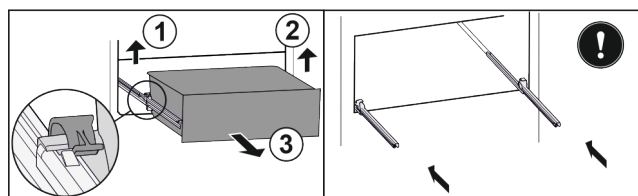

Fig. 26
- ▶ Lift the left clamp and simultaneously pull the drawer on the left forwards Fig. 26 (1).
- ▶ Lift the right clamp and simultaneously pull the drawer on the right forwards Fig. 26 (2).
- ▶ Take out the drawer to the front Fig. 26 (3).